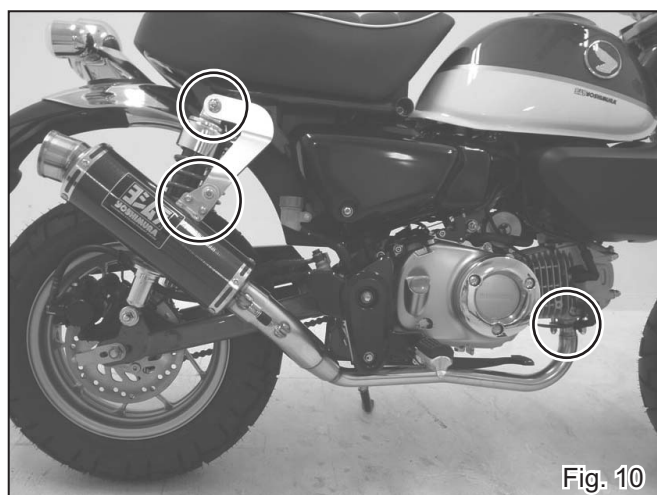

Fig. 10
- 8) Check that there are proper clearances between Yoshimura Exhaust System and other components, and adjust the position and angle of Silencer Assy. Then, tighten and torque Long Flange Nut M8, Button Bolt M6x20, Cap Bolt M8x30 and Thin U-Nut M10 P1.25 in order (See Fig. 10).